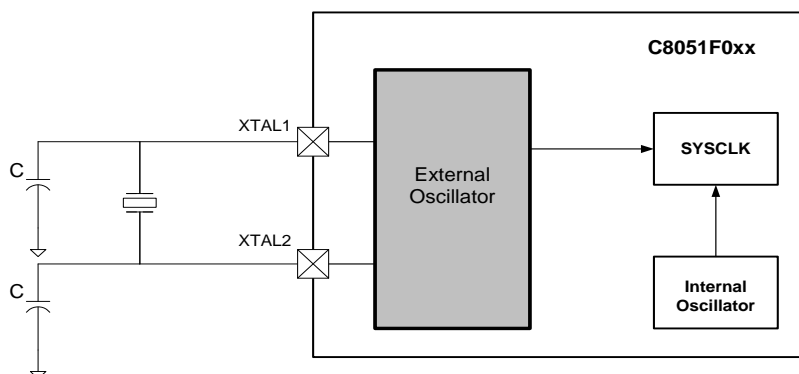

Figure 1. Internal Oscillator and an External Crystal Source Configuration
Two examples of alternating between SYSCLK sources are (1) an internal oscillator/external crystal configuration, and (2) an external crystal/RC oscillator configuration. If the device is used for occasional high speed data conversion, and a real-time clock is used for time-stamping the data, a combination internal oscillator and external crystal would be ideal. During sampling operations, the high speed internal oscillator would be used. When sampling is complete, the device could then use an external 32 kHz crystal to maintain the real-time clock. Once high speed operations are required again, the device switches to the internal oscillator as necessary (see Figure 1 below). An example of this procedure is illustrated in application note “AN008 - Implementing a Real-Time Clock”.